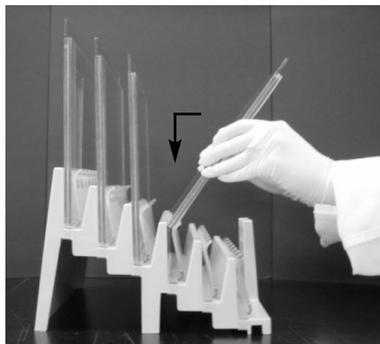

Fig. 3.1. Hold the gel cassette at an angle above the AnyGel stand, then lift the cassette to a vertical position while sliding it down into the stand.
1. Insert the gel cassette at a 45° angle between the clamp and the base (Figure 3.1).
2. Bring the gel cassette to a vertical position while sliding the cassette behind the clamp and onto the base (Figure 3.1, arrow).